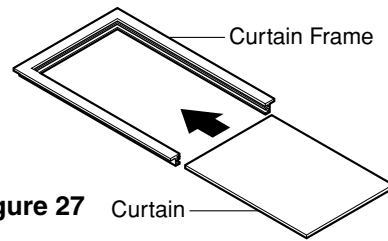

Figure 27
8. Slide Curtain into Curtain Frame. Slide Curtain Frame assembly into side Guides of the Air Conditioner cabinet. Make sure Curtain is firmly enclosed on all sides by the Frame. (See Figure 27)